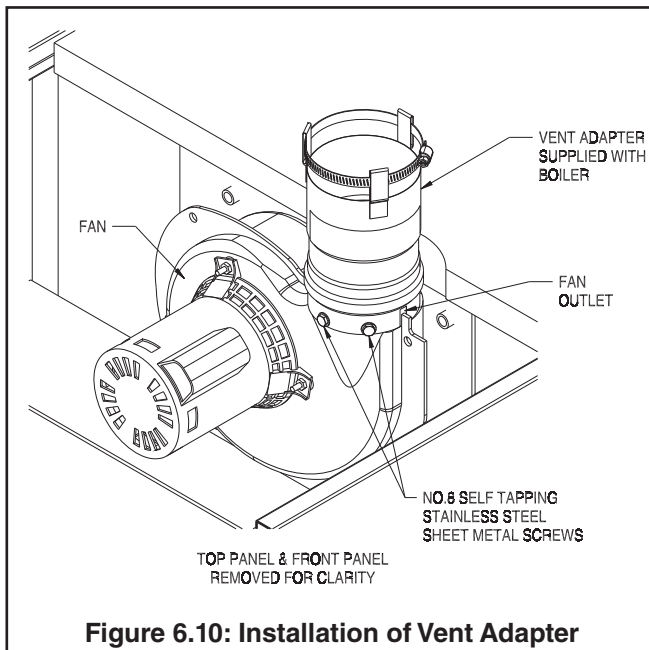

Figure 6.10: Installation of Vent Adapter
2. Vent Adapter Installation – The vent adapter is shipped loose. Mount the vent adapter to the fan outlet on the boiler as shown in Figure 6.10 using the two stainless steel screws provided.